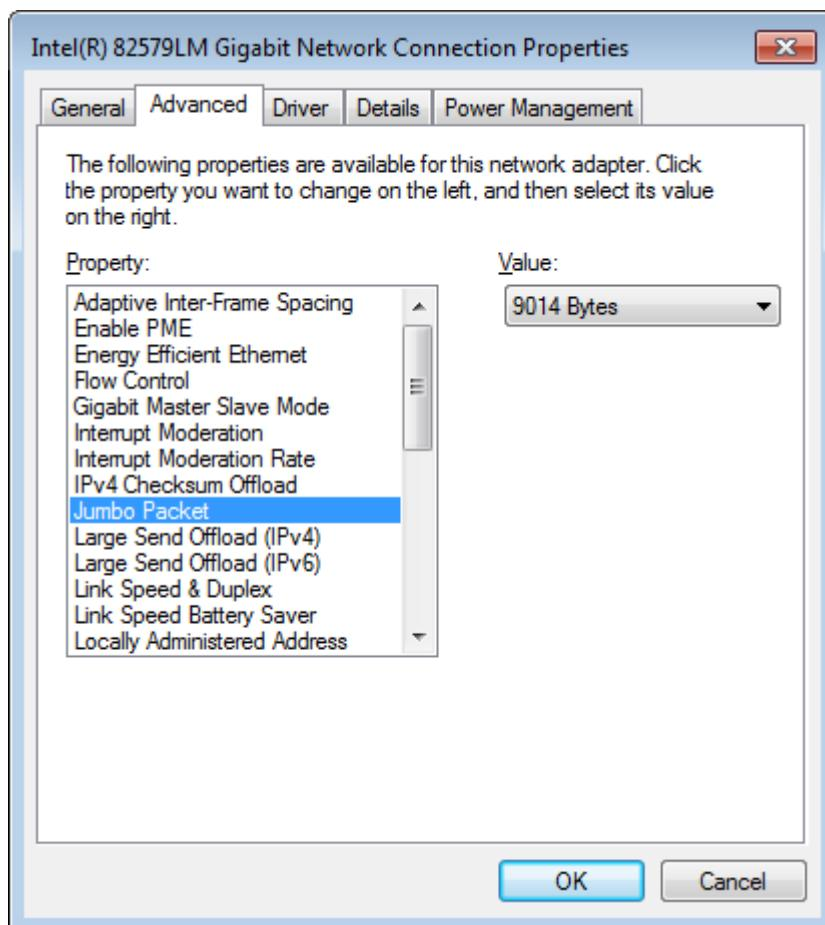

Figure 80: Network interface card - advanced driver settings - Jumbo Packets
4. The settings of the driver can be accessed by choosing the *Advanced* tab of the opened window. As shown in Figure 80, raise the value of the *Jumbo Packet* property to its maximum value.